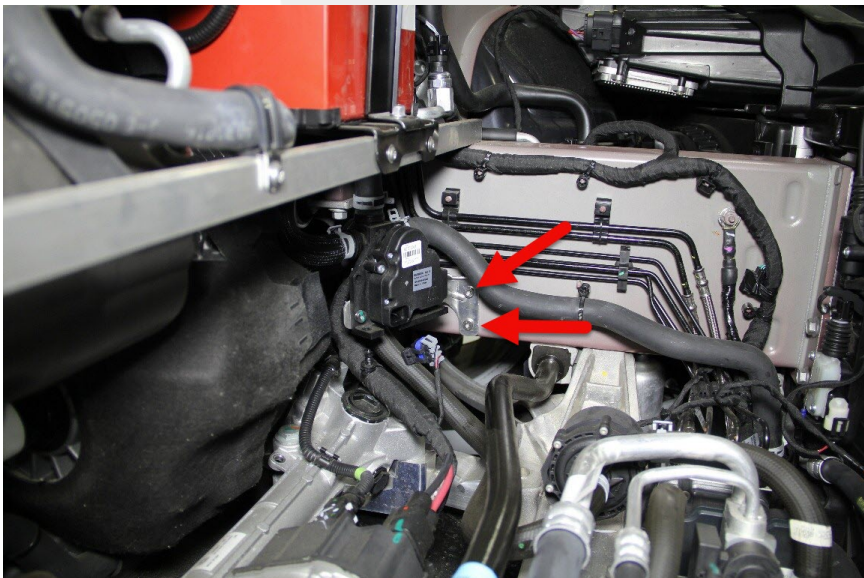

Figure 5
6. Remove the 2 bolts that attach the 4-way coolant valve to the side rail (Figure 5), and then set the valve aside.